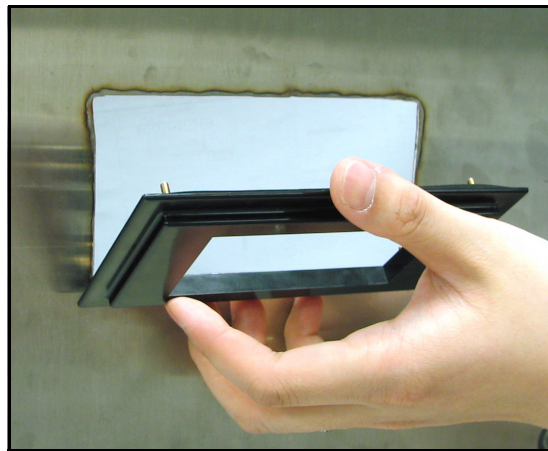

Figure 17: Inserting the Adapter Plate
2. Fit the adapter plate into the panel cutout (see Figure 17).